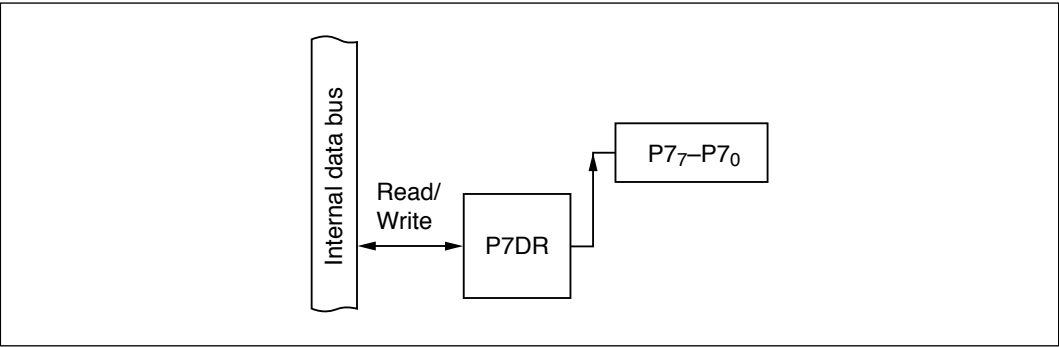

Figure 9-45 Output Port (Modes 1 to 7)
(2) Output Port (Modes 1 to 7): Figure 9-45 shows a block diagram illustrating the general-purpose output function. Table 9-35 indicates register read/write data. The value written in the port 7 data register (P7DR) is output at the pin. When read, P7DR returns the value written in P7DR.